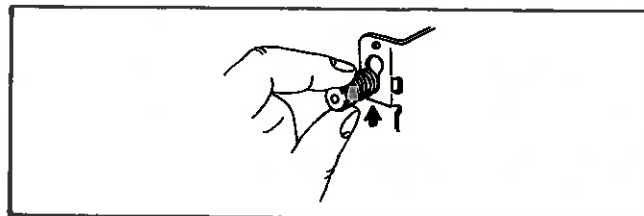

Fig. 25
a. 1800 R.P.M., 60 cycle or 1500 R.P.M., 50 cycle generators — Push speed adjusting nut in and up to release spring tension, Fig. 25. Start engine and pull out on speed adjusting nut to the maximum length of travel. Set engine speed to 2800 R.P.M. by bending governor tang, Fig. 21. With engine still running, return speed adjusting nut to slot and turn nut to obtain 1875 R.P.M., 60 cycle, or 1600 R.P.M., 50 cycle, no load.
b. 3600 R.P.M., 60 cycle or 3000 R.P.M., 50 cycle generators — Push speed adjusting nut in and up to release spring tension, Fig. 25. Start engine and pull out on speed adjusting nut. Set engine speed to 4600 R.P.M. by bending governor tang, Fig. 21. With engine still running, return speed adjusting nut to slot and turn nut to obtain 3700 R.P.M., 60 cycle, or 3100 R.P.M., 50 cycle, no load.
a. 1800 R.P.M., 60 cycle or 1500 R.P.M., 50 cycle generators — Push speed adjusting nut in and up to release spring tension, Fig. 25. Start engine and pull out on speed adjusting nut. Set engine speed to 2600 R.P.M. by bending governor tang, Fig. 21. With engine still running, return speed adjusting nut to slot and turn nut to obtain 1875 R.P.M., 60 cycle or 1600 R.P.M., 50 cycle, no load.
b. 3600 R.P.M., 60 cycle or 3000 R.P.M., 50 cycle generators — Push speed adjusting nut in and up to release spring tension, Fig. 25. Start engine and pull out on speed adjusting nut. Set engine speed to 4200 R.P.M. by bending governor tang, Fig. 21. With engine still running, return speed adjusting nut to slot and turn nut to obtain 3700 R.P.M., 60 cycle or 3100 R.P.M., 50 cycle, no load.